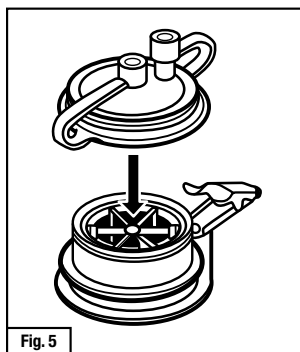
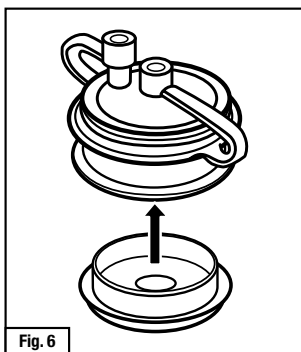

Fig. 5
Fig. 6
**3520/3530:** Snap elution cap (with plugs) onto the top of the primary body (Fig. 5). Separate the primary body and secondary body sections. Snap the bottom cup (no plugs) into the bottom of the primary section (Fig. 6). Snap elution cap on the secondary body. Monitor is now ready for shipment.